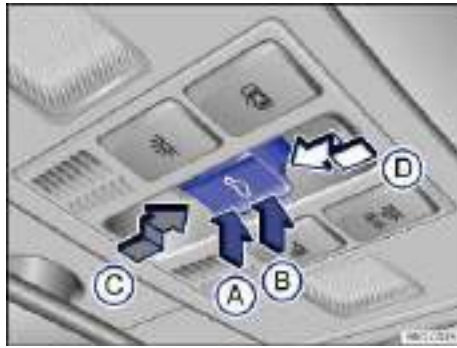

Fig. 32 In the headliner: Power sunroof switch.
The  switch ⇒ fig. 32 has 2 detents for each switch position ((A), (B), (C), and (D)), which are described in the following table.
Function	Action ⇒ fig. 32
- *Power sunroof:* Press the  button ⇒ fig. 32 within about 5 seconds after the sunroof or has stopped and hold it in the direction of the arrow (D) at the second detent until the power sunroof closes completely.